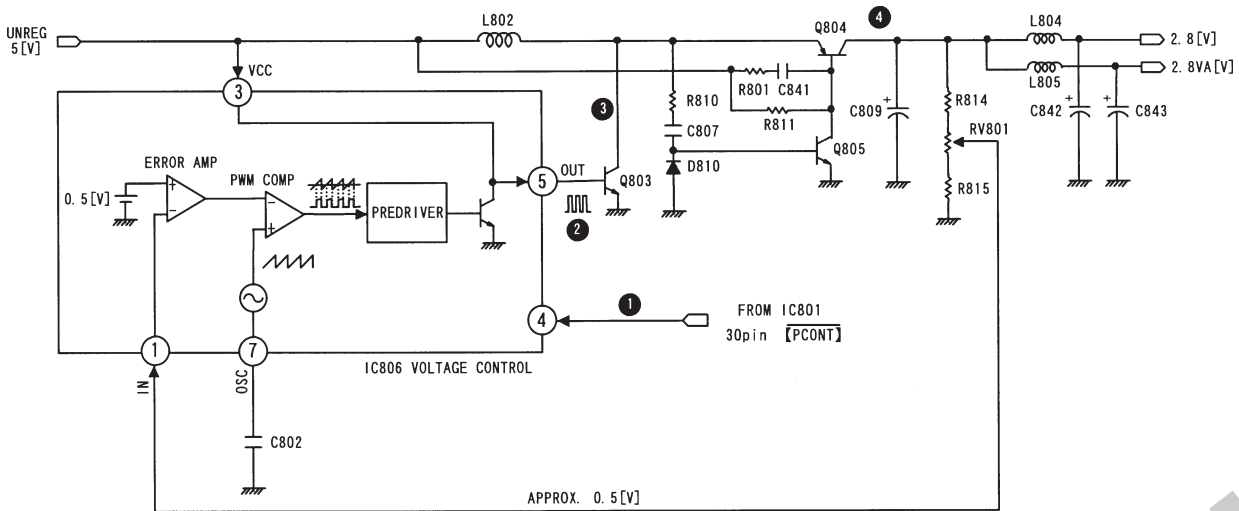

Fig. 5-2. 2.8 V DC-DC converter circuit
Fig. 5-2 shows the 2.8 V DC-DC converter circuit block diagram. The UNREG voltage is supplied to the voltage control IC806 pin③ [VCC], and when output from the system controller IC801 pin⑩ [PCONT] goes to “L”, IC806 starts up. When IC806 starts up, PWM waveform that is generated by the internal PWM comparator is output from pin⑤ [OUT].